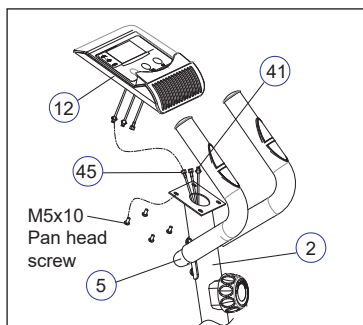

Figure 7
5.2 Use the Screwdriver (36) applied and M5x10 Pan head screw to fasten the Monitor(12) to the Centre bar (2). (see fig.7)